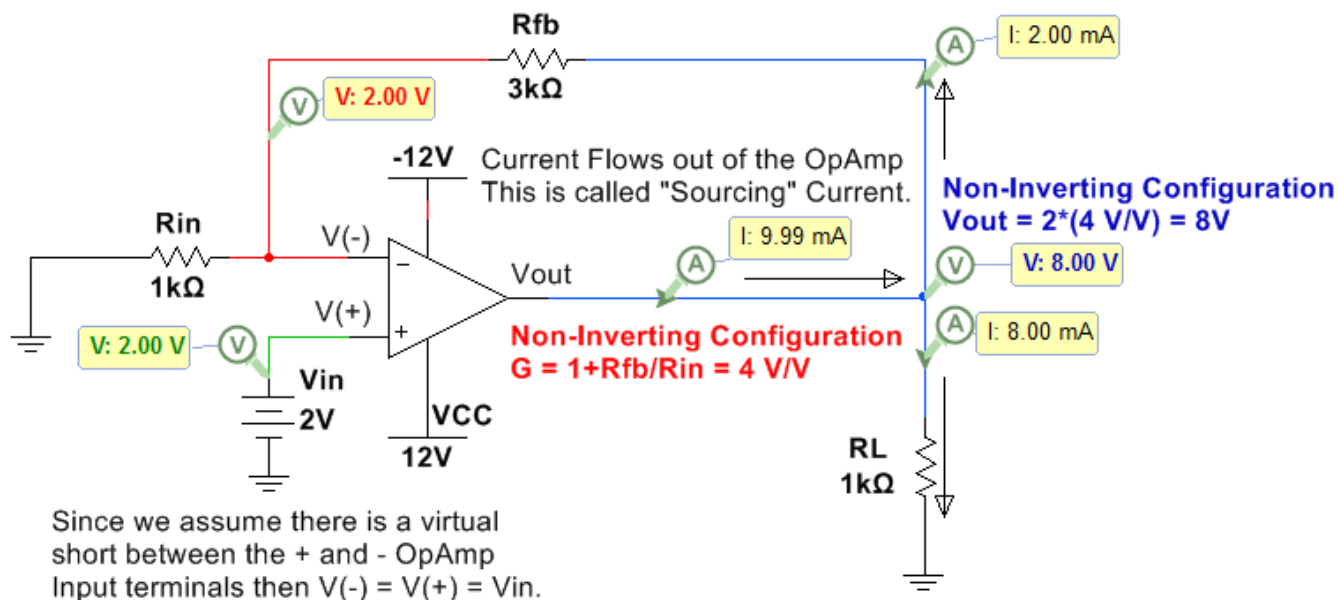
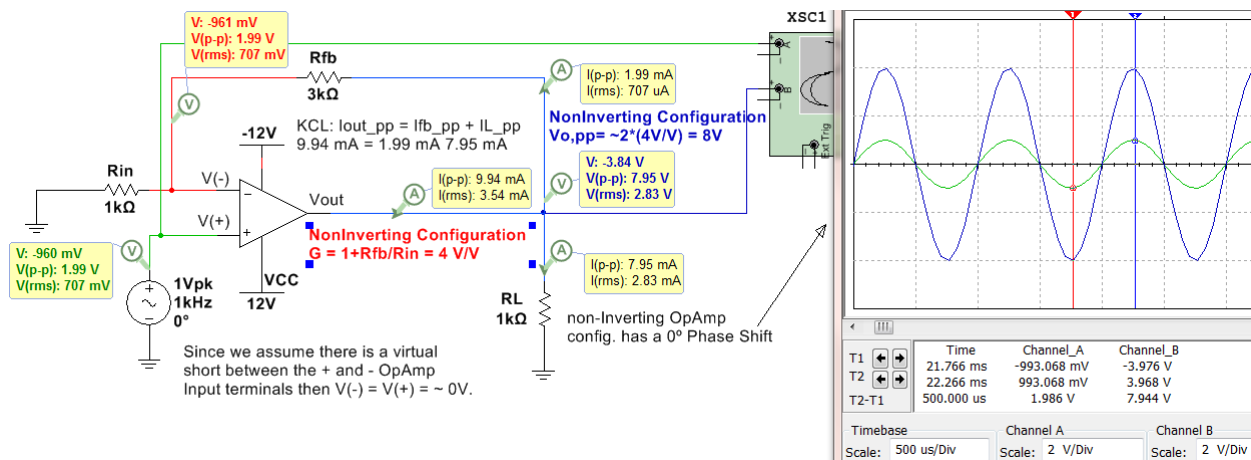

Figure 7.15: Non-Inverting Configuration with a DC input.
Figure 7.16: Non-Inverting Configuration with an AC input.
- **Non-Inverting Configuration:** If the input voltage is connected to the in non-inverting input terminal (+) of the OpAmp it is called the “non-inverting configuration”. An example with a DC input is shown in Figure 7.15 and an example with an AC signal is shown in Figure 7.16.
Since the virtual OpAmp in Figure 7.14 has a fixed  $A_0$  of 200,000 V/V regardless of the input frequency the ideal gain in Equation 7.2 matched closely with the Multisim measurements. If an actual OpAmp were used (like the LM324) the gain would be reduced due to the increase in frequency that results in a finite  $A_0$ . For this same reason, Multisim also matches the Non-inverting OpAmp configuration circuit with an AC input in Figure 7.16.
The non-inverting OpAmp configuration is shown in Figure 7.15 (DC input) and Figure 7.16 (AC input).